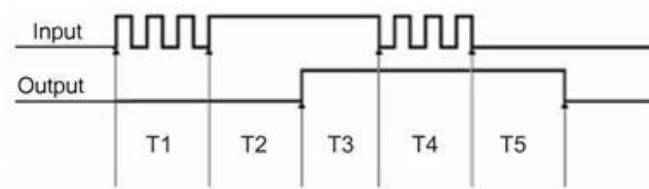

Figure 18. Trigger after stable mode
In the *trigger after stable* mode, the output of the debounce module does not change state until a period of stability has been achieved. This means that the input has an edge, and then must be stable for a period of time equal to the debounce time. Refer to Figure 18.
- T1 – In Figure 18, the input signal goes high at the beginning of time period T1, but never stays high for a period of time equal to the debounce time setting (equal to T2 for this example.)